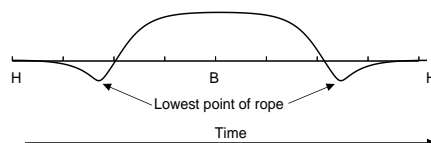
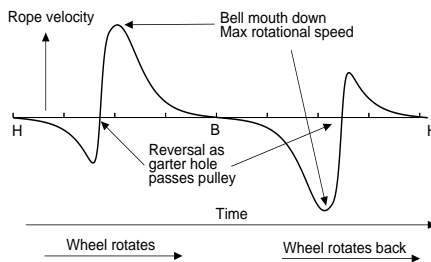
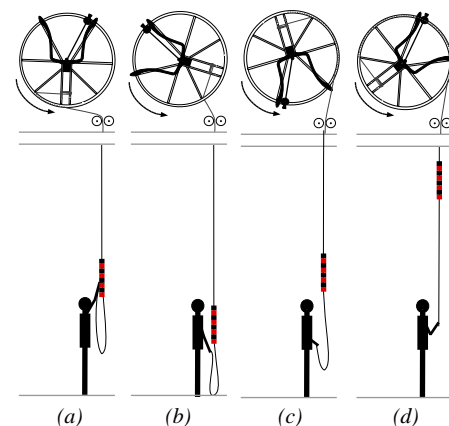

Figure 1: Position of the rope
Figure 2: Varying speed of the rope
Figure 3: Rope and wheel movement
To illustrate the point, *Tail End* drew a sketch to show how the rope speed varies. Subsequent calculation produced an even 'sharper' picture, with more rapid speed changes, but before looking at speed, let's get our bearings by looking at rope position. Figure 1 shows how the rope position varies as the wheel rotates from handstroke (H) to backstroke (B) and back to handstroke (H). The axis represents the height of the rope when the bell is on the balance at handstroke.
Following the curve from the left, we see the rope coming down from the handstroke, then rising well past its initial position to the backstroke. It then returns to the handstroke, with its movement mirroring what it has just done. A whole pull takes about 4 seconds for a typical bell, so the intervals on the axis of Figures 1 and 2 are roughly half seconds.
Now let's look in detail at Figure 2, which shows the rope speed. Where the curve is above the axis, the rope is moving upwards, and where it is below, the rope is moving downwards. The rope is moving slowly where the curve is close to the axis, and more rapidly when it is further from the axis.
Starting again from the left, as the rope descends from handstroke, the downward speed increases. This increase is brought to a rapid halt when the garter hole passes the pulley (see Figure 3(b)). The rope can't go lower, and begins to rise as it starts to wind the other way round the wheel.
So far, so good, but look again at Figure 3(b) and you see the bell still has a long way to swing down from this point, so it is still accelerating – the rope changes direction, while the wheel is still increasing speed, which makes the transition vary rapid. In Figure 2, you can see that within about a quarter of a second of its fastest downward movement, the rope is moving twice as fast upwards. That is why, if you are unwise enough to hang on too long after the handstroke, the rope will give you a nasty jolt.
In the right hand half of Figure 2, as the rope returns from backstroke to handstroke, with the speed reversed. The rope accelerates down from the backstroke, before doing another sudden reversal and rising to the handstroke.
Figures 1 and 2 are shown above each other so you can correlate them. Notice that the two curves don't cross the axis at the same time. Figure 2 (speed) crosses the axis at the lowest and highest points of the curve in Figure 1. The rope speed is zero at the top and bottom of its travel, not where it passes its initial height.
Sensing the natural speed changes in the rope movement is not only important for good rope control, but essential if you are to feel through the rope, to what the bell is doing. A common problem is failing to let the bell rise fully at the top of the stroke. As you can see from Figure 1, the last little bit of the rise towards the balance is slow and protracted. Near the top, the bell feels light, and you need a delicate touch to detect when it actually gets to the top. If you are heavy handed, the force you put on the rope will stop the bell prematurely and make it drop.